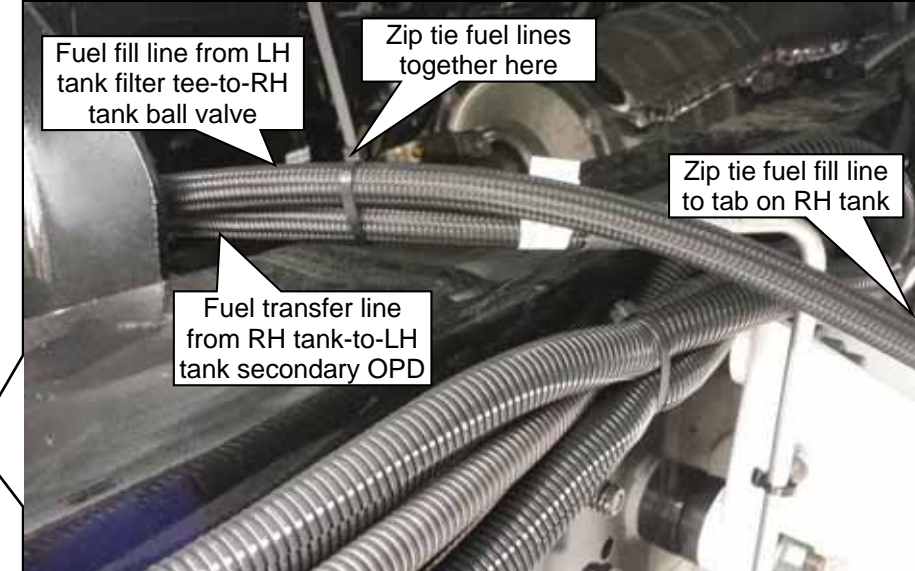
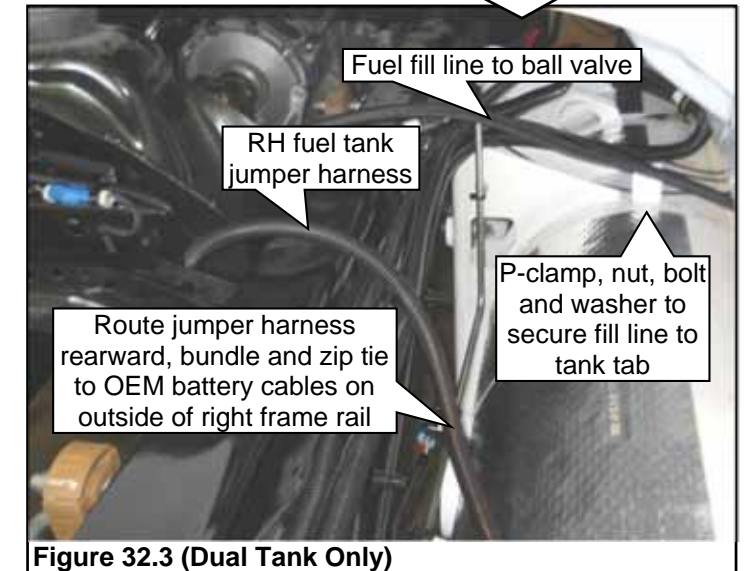

Figure 32.6 — Right Frame Rail (Dual Tank Only)
Figure 32.3 (Dual Tank Only)
2. **Dual Tank Only:** Route the RH tank jumper harness over the right frame rail and bundle the harness with the relocated battery cables along the outside of the frame rail. Bundle and zip tie all harnesses together. Continue the jumper harness to the rear and drop it down close to the RH tank solenoid and level sender harness connections. **Figure 32.3.**
5. **Dual Tank Only:** Zip tie the two fuel lines together where they join just above the right frame rail. Route the fuel fill line from the LH tank filter tee (coming from crossmember) over the tank, under the cab and outside the tank to the ball valve. Support the fill line by a P-clamp and fasteners on the tank tab. **Figures 32.6 and 32.7.** Also, secure the fill line to a tab at the top of the tank using a P-clamp and fasteners. **Figure 32.3.** If not done, tighten the line fitting on the ball valve to specification.